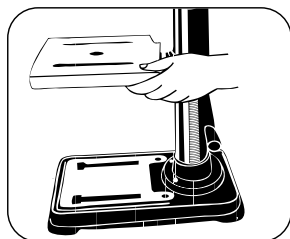

FIGURE 8.5
- Tighten the clamp by turning the Table Crank (Figure 8.5).